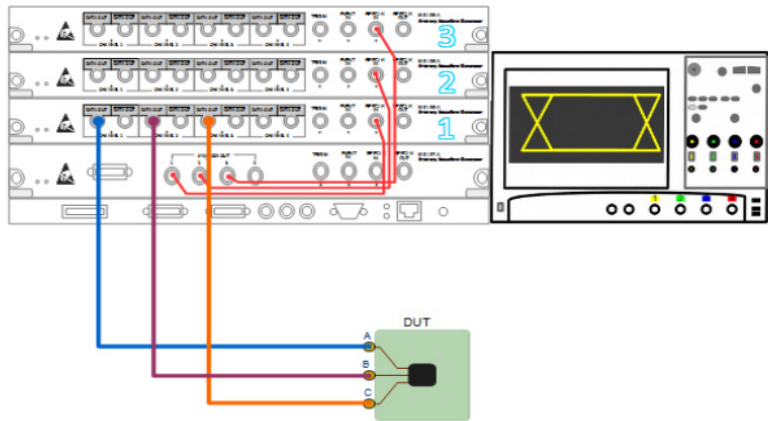

Figure 37 Connection Diagram for M8195A
Figure 37 illustrates the connection settings, which are common for all tests listed under HS Tests, LP Tests and Behavioral Tests. The Semi-Automated Tests require slight modifications in the physical connection with the DUT, which has been illustrated in Figure 38.
- Make the connections for the selected test procedure as per the connection diagram shown in Figure 37 (and Figure 38 for Semi-Automated tests) for M8195A.